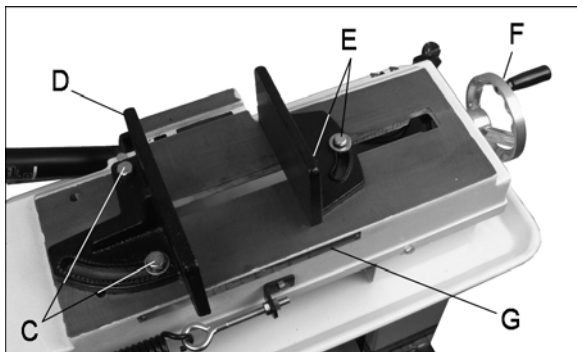

Figure 15
1. Make sure fixed jaw (D, Figure 15) has been squared (*section 9.2, Squaring blade to vise*).
3. Loosen screws (E) on floating jaw, and use handwheel (F) to bring floating jaw into contact with workpiece, allowing it to conform to the shape.
4. Tighten screws (E).